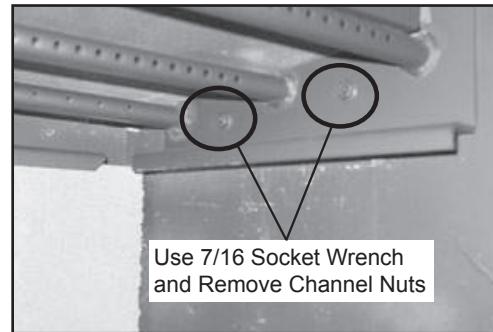

Figure 24.2
3. Remove the 2 channel nuts (7/16) and 2 bolts (3/8) inside of chamber. **Figure 24.2**